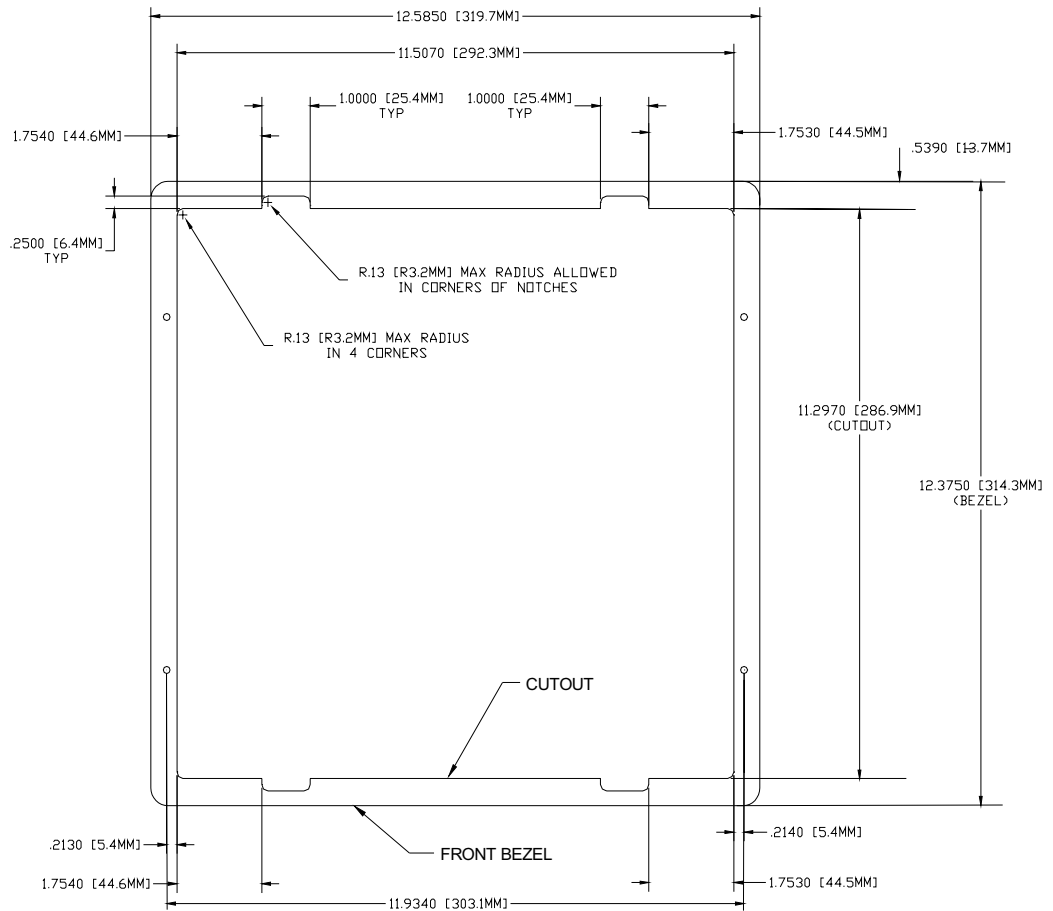
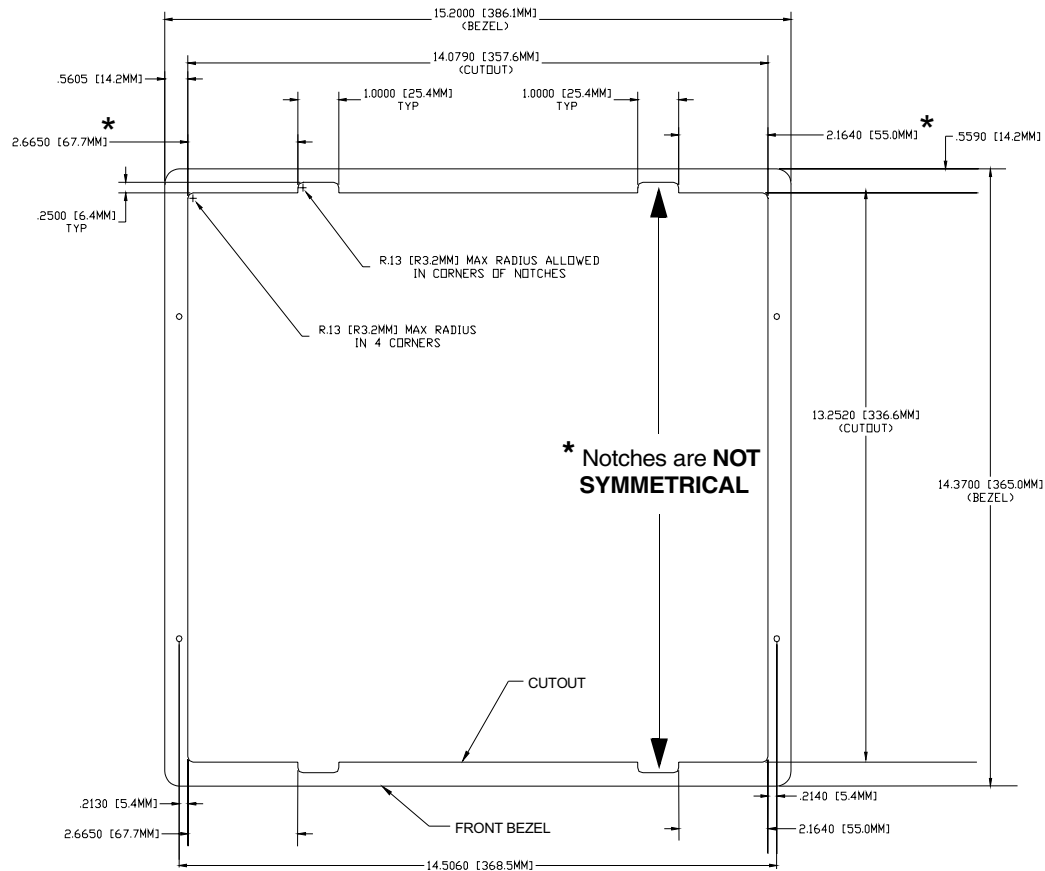

FIG. 40 NXD-1200VG 12-inch Wall Mount panel dimensions using expansion clips
FIG. 41 NXD-1500VG 15-inch Wall Mount panel dimensions using expansion clips
2. Cut out the surface for the **12-inch Wall Mount** using the dimensions shown in FIG. 40 and for the **15-inch Wall Mount** using the dimensions shown in FIG. 41. Be sure to cut out the four notches along the top and bottom areas to accommodate the four drywall expansion clips (provided).
- 8.** Insert the four sets of drywall screws and expansion clips into the four oval notch locations along the top/bottom edges of the main unit (FIG. 41).
- 9.** Carefully insert the main unit (with expansion clips) into the cutout until the Mounting Tabs on the NXD unit lie flush against the wall (FIG. 41).